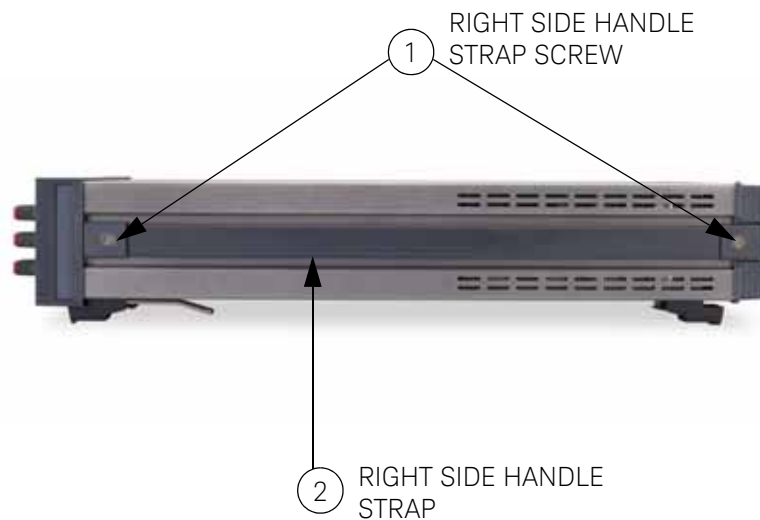

Figure C-1 3458A right side
- 3 Refer to **Figure C-1**. Turn the instrument so its right side faces you (as seen from the front).
- 9 Refer to Figure C-1. Turn the instrument so its right side faces you.